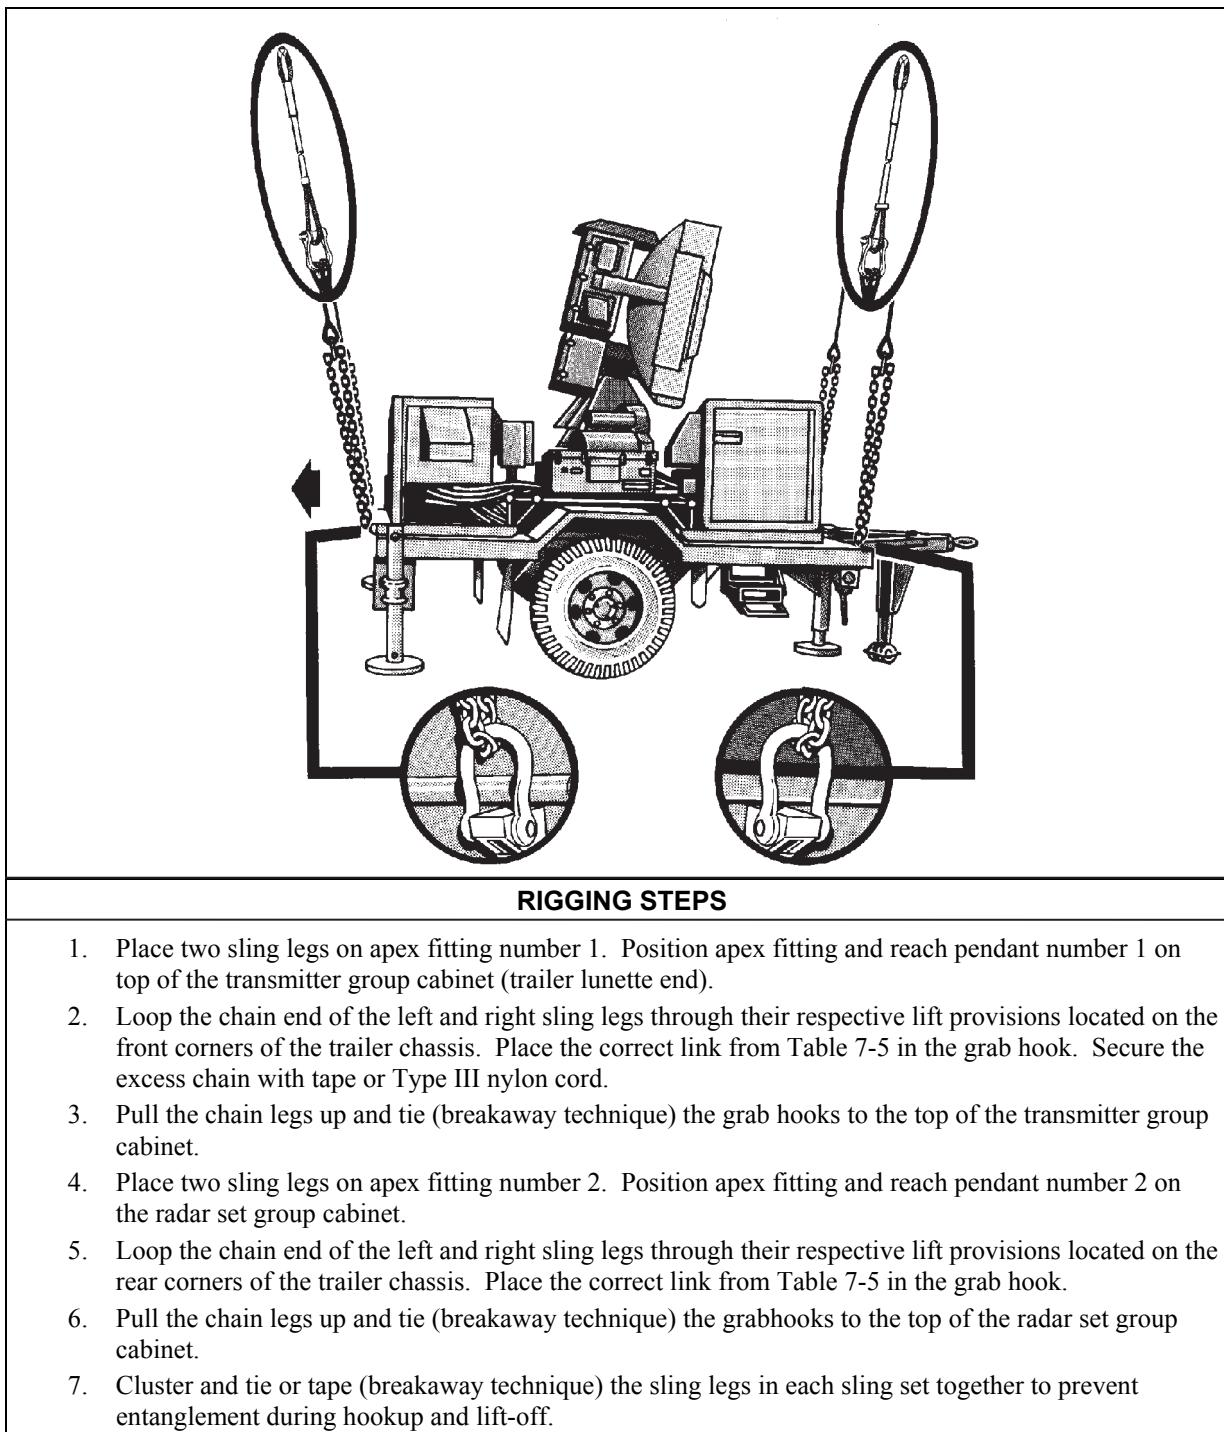

Figure 7-5. AN/MPQ-57 and AN/MPQ-61 High-Power Illuminator Radar
- **Rigging.** Rig the load according to the steps in Figure 7-5.